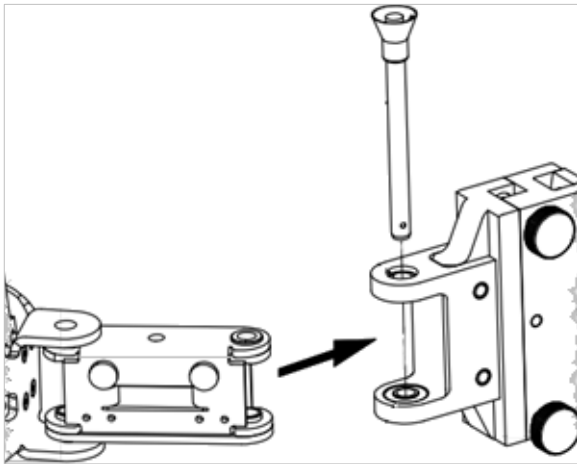

Figure 7 Pinning the hinge block and the mounting interface block
- c. Insert the quick-release clevis pin through the sockets, as in see Figure 7.